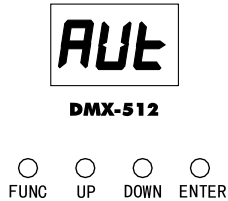

Fig.6
- Press the button FUNC so many times until the display shows [*AUL*] (fig.6).